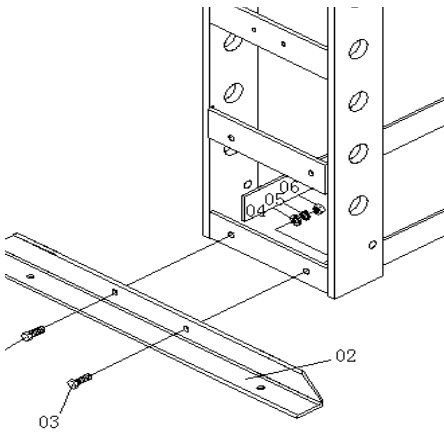

Fig. 1
1. Assemble the base to the body frame by Bolt M14*40(03), Washer 14(04) and Lock Washer 14(05). (refer to fig 1)